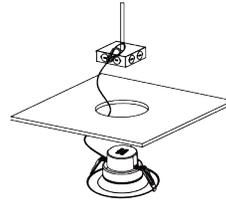

Fig. 7
4. Attach carabiner safety clip to the existing fixture housing. (Fig. 7)